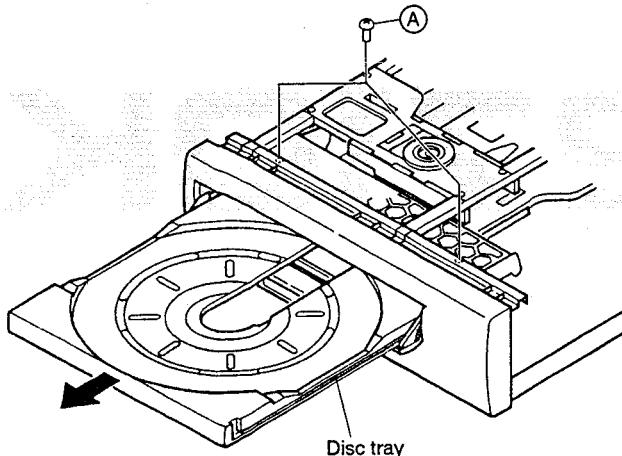
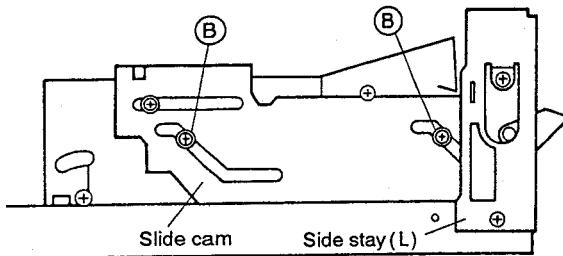

Fig. 1
Fig. 2
- ① Remove two screws A for tray stopper. (Fig. 1)
- ② Remove the front panel. (by loosening three screws at the top side and a fixing screw of the earth lead.)
- ③ Remove two fixing screws from the slide cam on the left side. (Fig. 2)
- ③ Insert so that the first tooth of the straight gear on the rear of the disc tray meshes with the chipped gear teeth of the roller plate assembly.
- ④ Tighten two screws Ⓐ for disc tray stopper. (Fig.1)
- ① Insert a screwdriver into the chassis hole near a strain relief through the back of the base chassis and remove the strain relief stop ring.